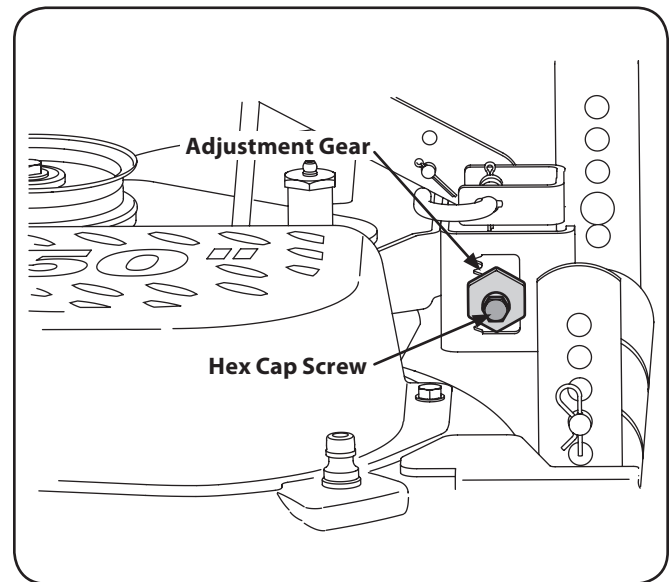

Figure 6-5
4. Working from the left side of the tractor, loosen, but do not remove, the hex cap screw in the left deck adjustment bracket. See Fig. 6-5.
5. To even the deck, turn the adjustment gear, located immediately behind the hex cap screw, clockwise (rearward) to lower the left side of the deck. Turn the gear counter-clockwise (toward front) to raise the left side of the deck. See Fig. 6-5.